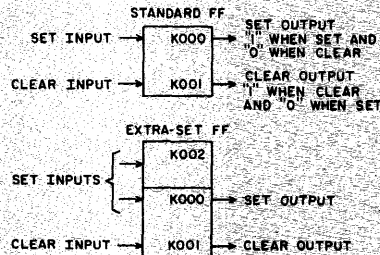
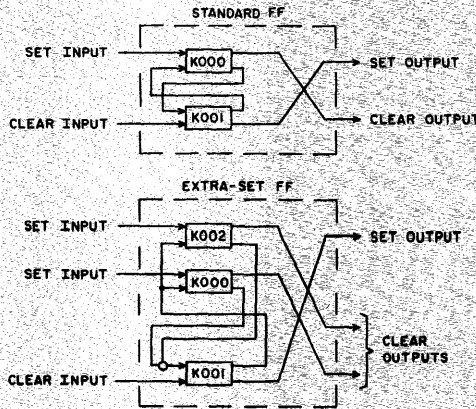

Figure 5. Flip-Flop Symbols
Figure 6. Internal Inverter Connections for a Flip-Flop
The flip-flop (FF) is a storage device with two stable states - designated as Set and Clear - and is composed of two or more inverters. The logic symbols (Figure 5) are formed by the combination of inverter symbols. By convention, Set inputs and outputs are shown in the upper part of the symbol and Clear inputs and outputs are shown in the lower part of the symbol.
Figure 6 illustrates the interconnection of inverter symbols to form a flip-flop symbol. The term numbers assigned to each flip-flop are the term numbers of the internal inverters as seen by comparing the terms in Figure 5 with those in Figure 6. Notice that the Set output is the output of inverter K001, and the Clear output is the output of inverters K000 and K002.